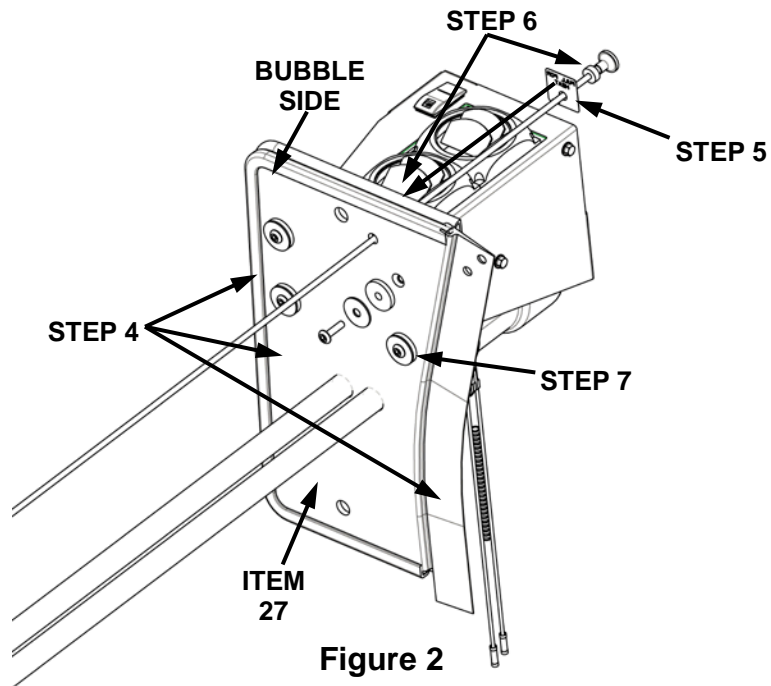

Figure 2
4. Install seals onto new acrylic window (**Figure 2**).
5. Apply pull for heat decal onto acrylic window at 7/16" hole location (**Figure 2**).
6. Install push/pull cable into acrylic window 7/16" hole and secure to window using hardware supplied with push/pull cable (**Figure 2**).
7. Secure heater assembly onto the inside surface of the acrylic window using (**Figure 2**);